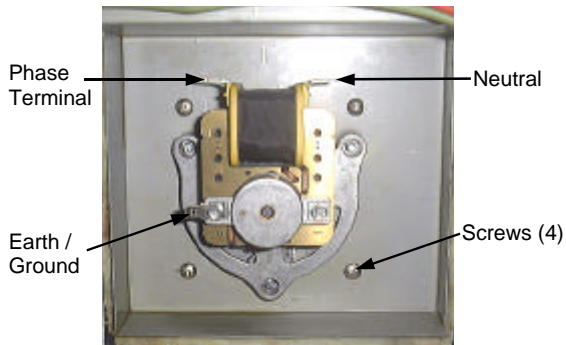

Figure 6.3.11
- 5) Ensure wire connections are correct (fig 6.3.11)